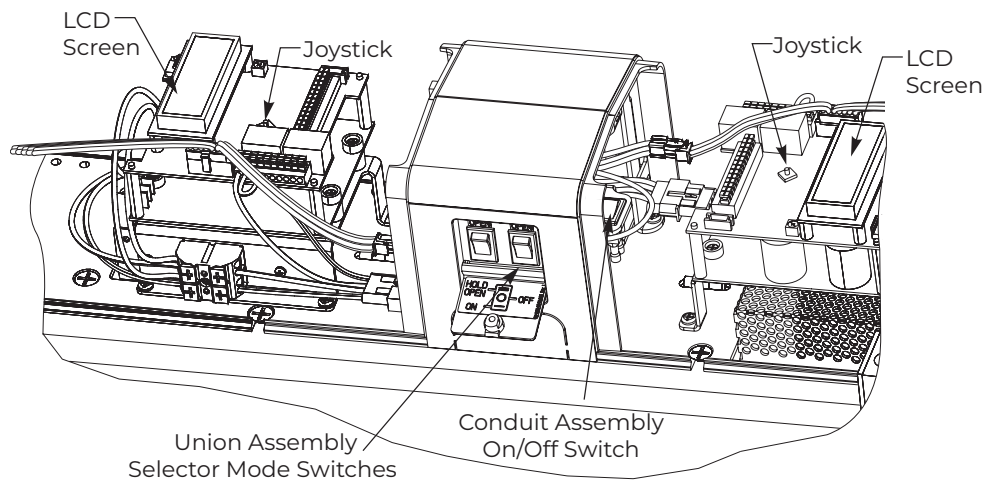

Figure 29 View From Floor
1. Open door on union assembly and place each selector mode switch in 'OFF' position. (Figure 29)
2. Turn On/Off switch to 'OFF' position on conduit assembly. (Figure 29)
- To scroll through menu items, push up or down on joystick. (Figure 29)